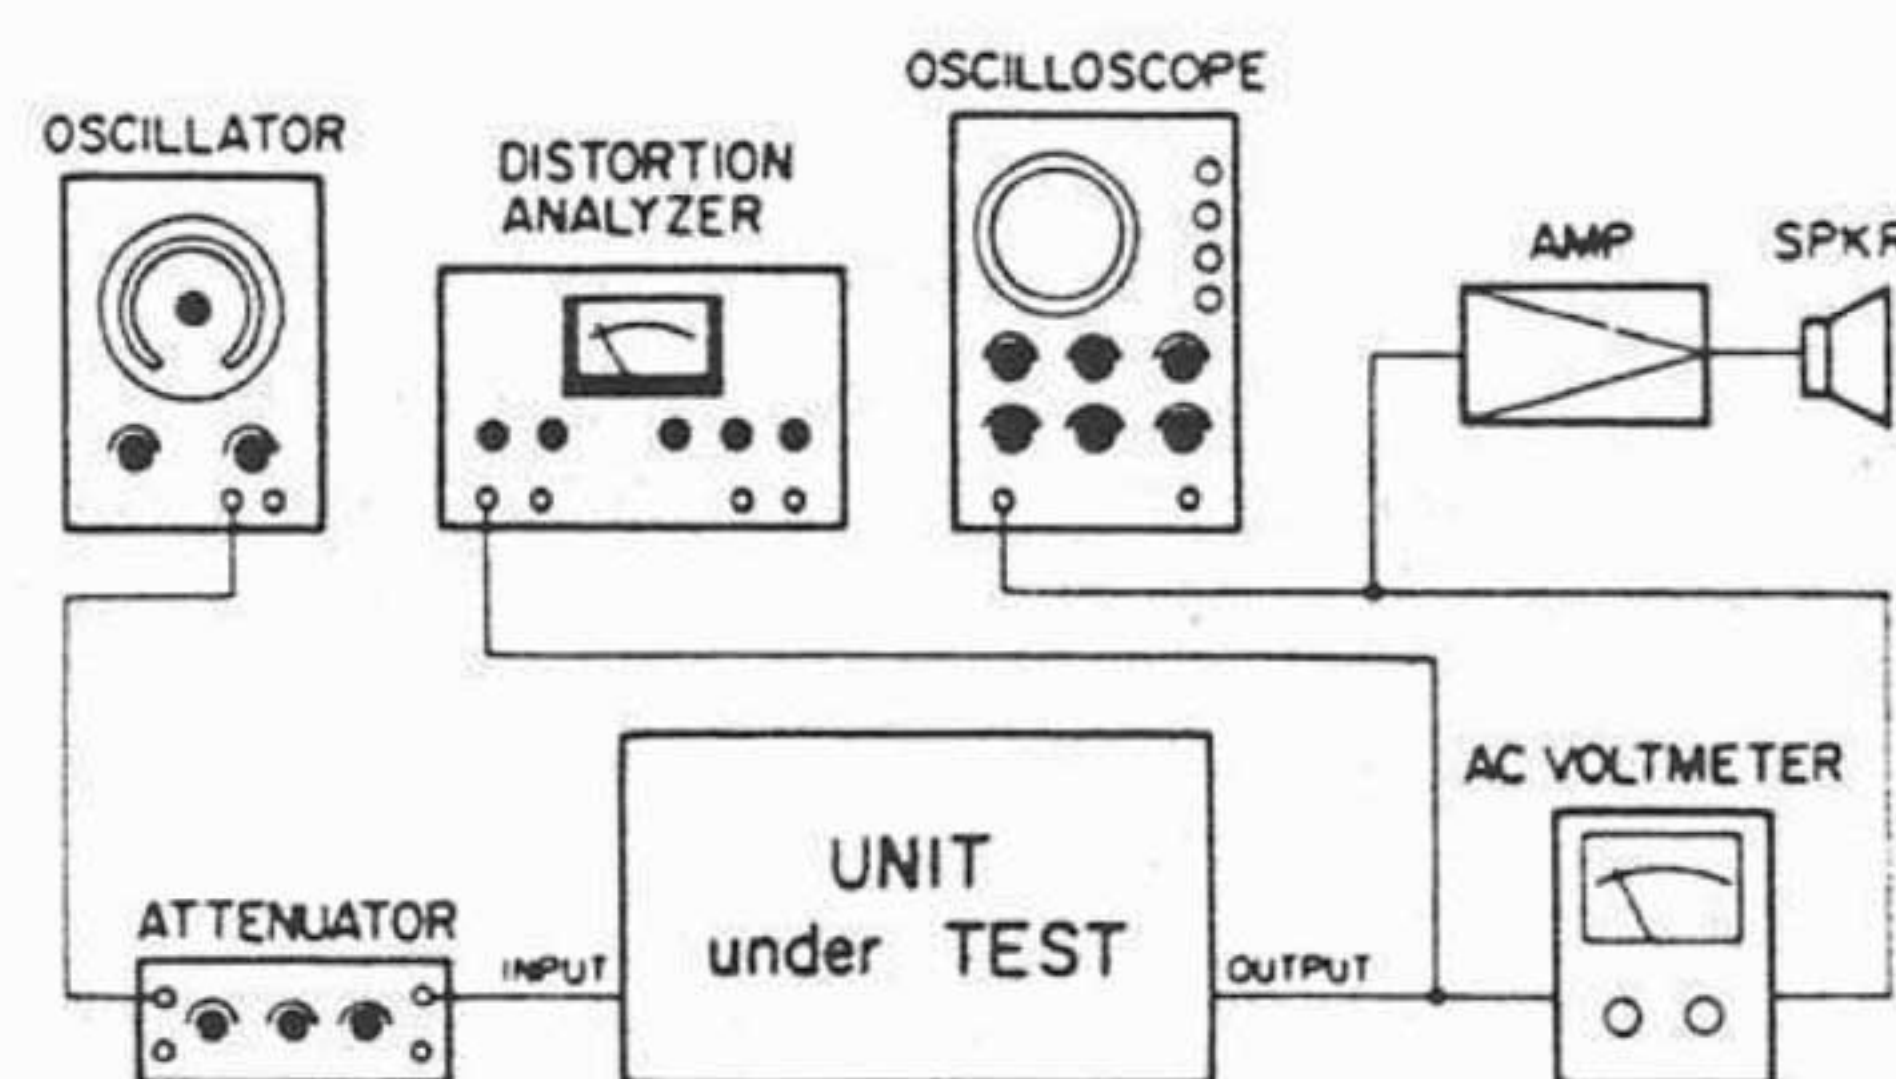

FIG. 37. DISTORTION TEST SET-UP
1. Connect test equipment as shown in Fig. 37.